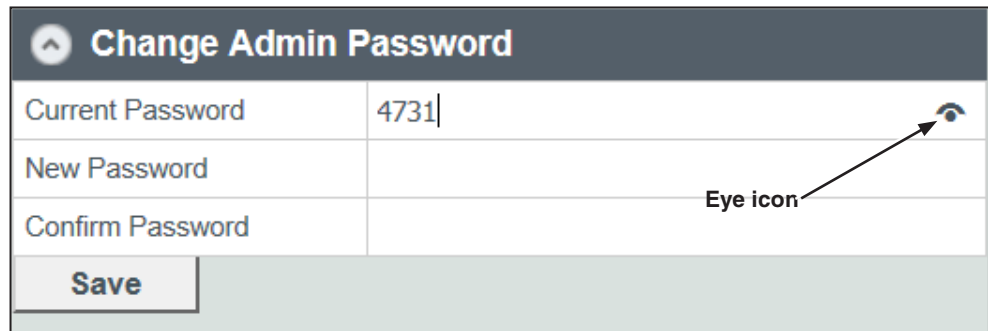

Figure 8. Click on the “Eye” icon to reveal the password.
STEP 3. If desired, click on the Eye icon on the right side of the **Current Password** field to reveal the text of the password. See Figure 8.